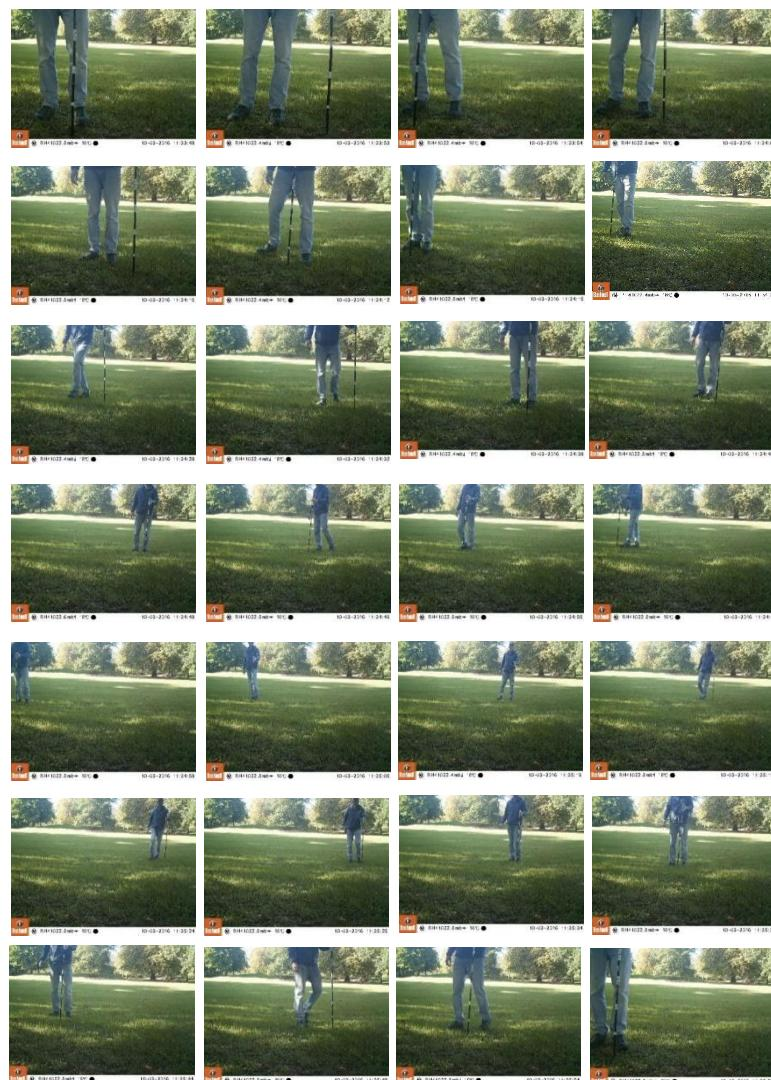

Figure 3. A set of deployment calibration images showing 28 pole positions with good coverage of the detection zone.
- Repeat this for further pole placements (at least 25-30) across the field of view and away from the camera, with placements spaced about 0.5 m apart. Continue away from the camera to the maximum extent that any animals are likely to be captured, or if possible, a bit beyond. As you reach greater distances, it may help to have a second person next to the camera to keep it triggering. See figure 3 for an example of a good coverage of deployment calibration pictures. **Before going to the field, it is important to run trials of the deployment calibration process.** Complete the deployment calibration process described above in a convenient location and inspect the images making sure that the results is good.